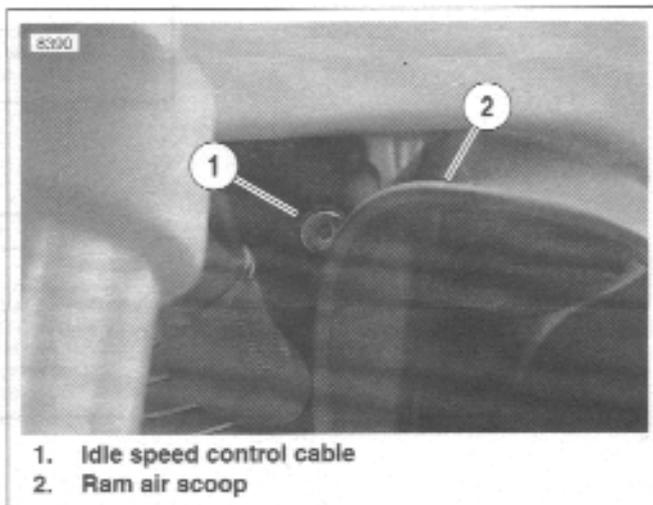

Figure 4-31. Idle Adjustment Cable
See Figure 4-31. The idle speed control cable (1) is located on the left side of the vehicle between the front cylinder head and the ram air scoop assembly (2). Idle speeds are listed in 4.1 SPECIFICATIONS. A 3/16 in. allen wrench may be used to turn adjuster knob.